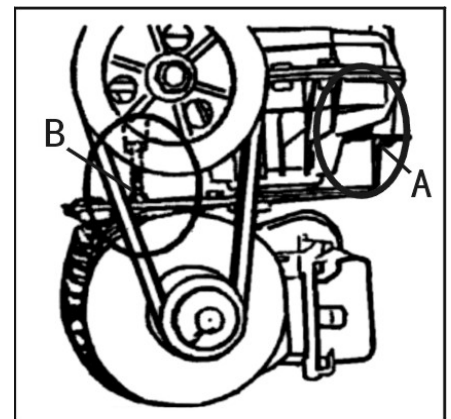

Fig 30
- Periodically check and adjust the tension force of the transmission belt and properly adjust the adjustable nuts at the A and B position to adjust the tension of the belt (Fig 30) .